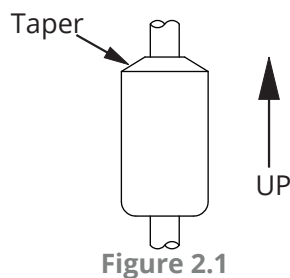

Figure 2.1
- The float(s) is/are oriented properly on the stem (See Figure 2.1 below). MPX-E floats will be installed by the factory. MPX-R floats are typically installed by customer.